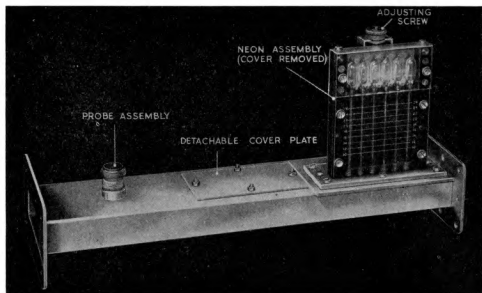

Fig. 8. Output tester Type 65 : general view
Output tester Type 65 (fig. 8)
26. Output tester Type 65 is a high-power standing-wave indicator and power measuring device for the band 9.8 to 10.2 cm. It consists of a short length of 3 in. \times 1 in. waveguide with six neon tubes (CV360), of special design, arranged along the 3 in. face and backed by a graduated scale as shown in fig. 8. In practice the output tester forms a section of the waveguide run and is located immediately above the transmitter box.